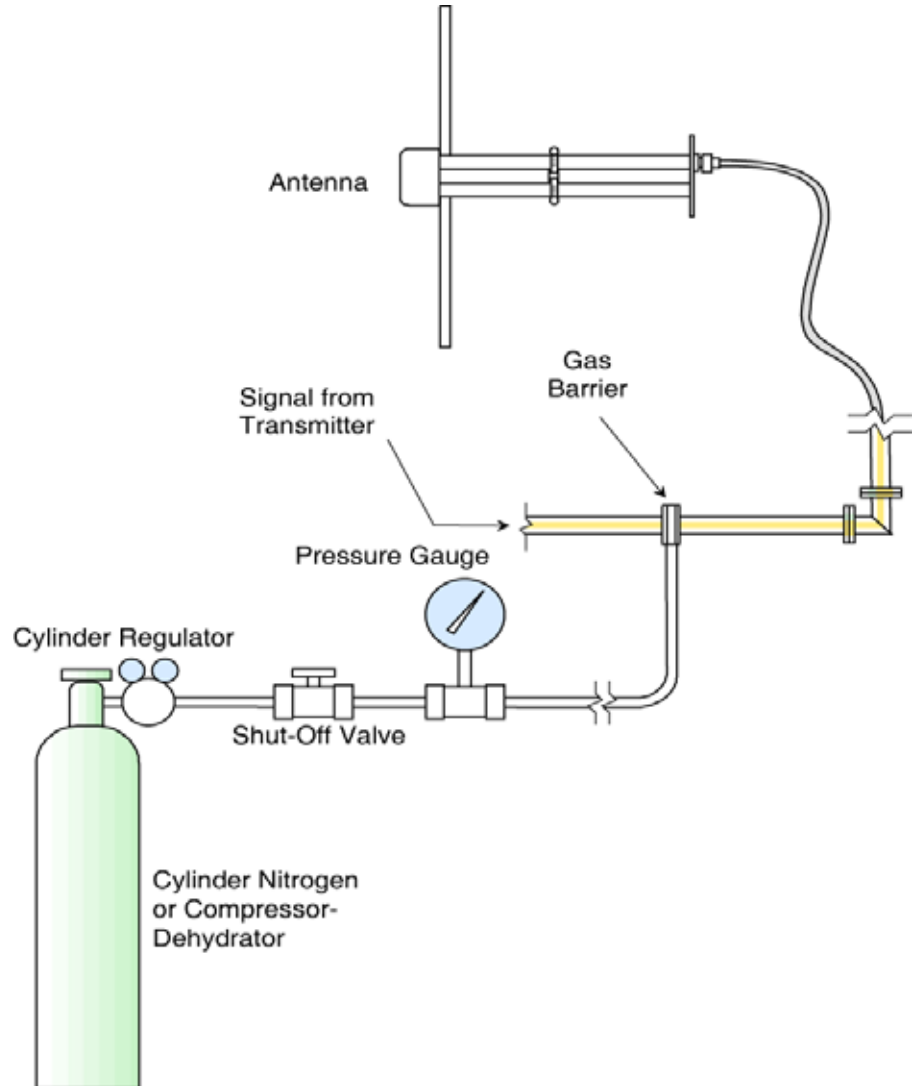

Figure 7. Pressurized Gas Schematic
- a. Connect a source of dry gas (cylinder nitrogen or air from a compressor-dehydrator) to the system as shown in Figure 7 on page 15.
- e. Connect a source of dry gas (cylinder nitrogen or air from a compressor-dehydrator) to the system as shown in Figure 7.